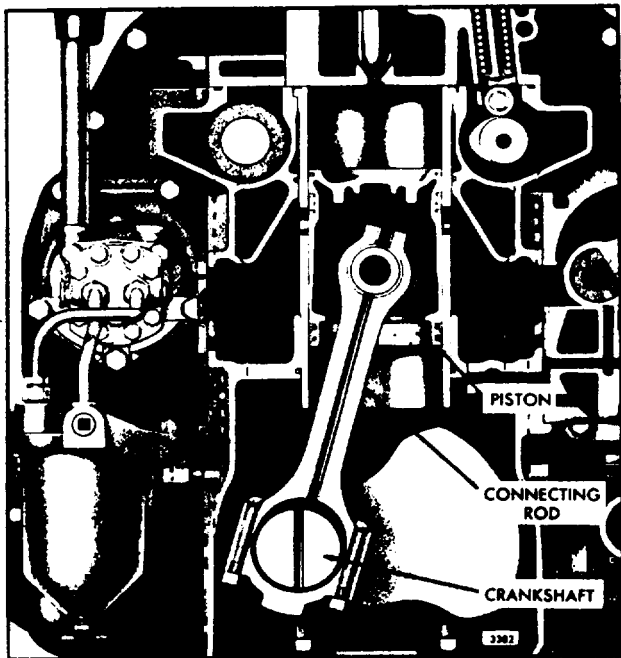

Fig. 1. Connecting Rod Mounting
With the connecting rod assembly inspected and assembled to the piston as outlined in Section 1.6.1, refer to Fig. 1 for the proper location of the piston rings on the piston.
1. Install an expander in the upper oil ring groove (Fig. 1), being careful not to overlap the ends.
Each connecting rod (Figs. 1 and 2) is made of steel forged to an "I" section with a closed hub at the upper end and a cap at the lower end. The rod is drilled to provide lubrication to the piston pin at the upper end and is equipped with an oil spray nozzle for cooling the underside of the piston head,